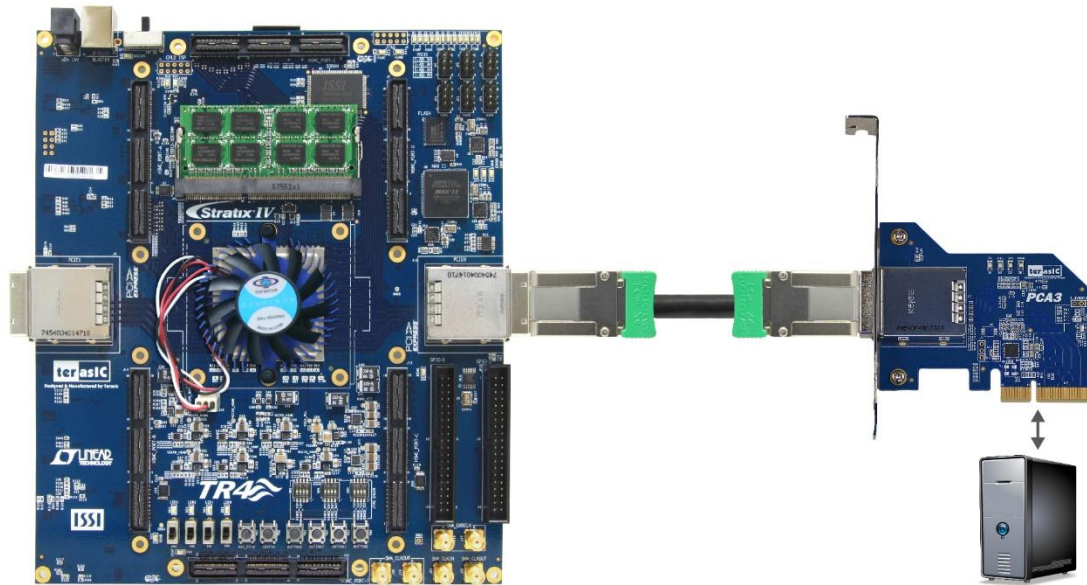

Figure 7-4 FPGA board connect to PC
1. Use the PCIe cable to connect to the TR4 PCIE0 connector and PCIe adapter card 3 (PCA3) as shown in **Figure 7-4**.